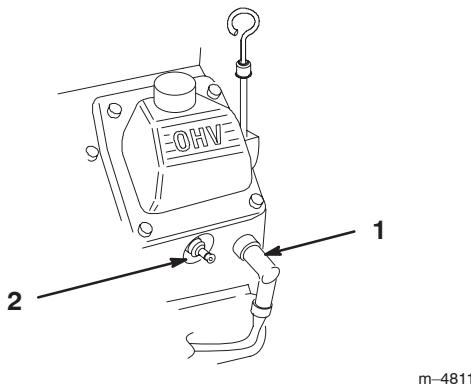

Figure 48
8. Pull the wire(s) off the spark plug(s) (Fig. 48). Now clean around the spark plug(s) to prevent dirt from falling into the engine and potentially causing damage.
3. Push the wire(s) onto the spark plug(s) (Fig. 48).